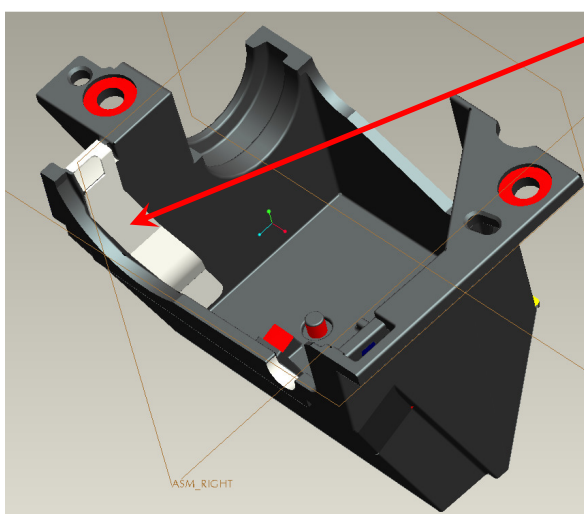
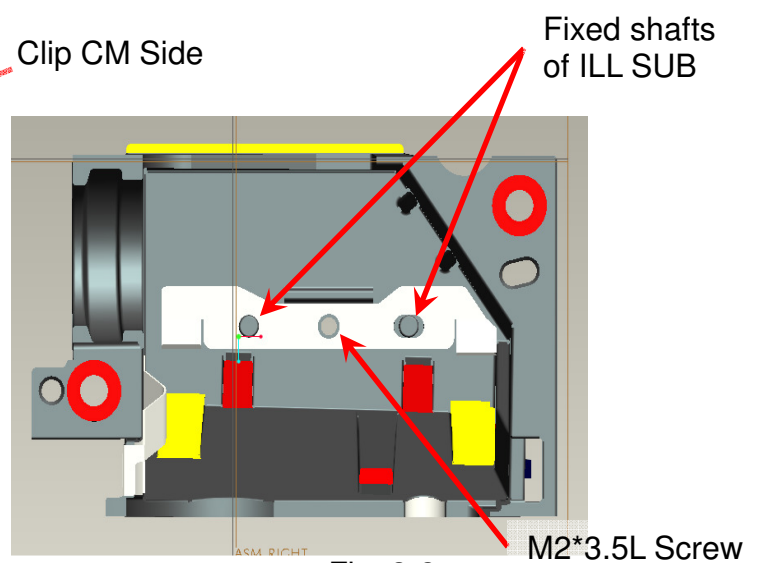

Fig. 3-1
Fig. 3-2
- (1) Insert “Clip CM Side” first, and then place “Clip Front CM” to fixed-shaft of ILL SUB before locking screw (Fig. 3-1, Fig. 3-2).